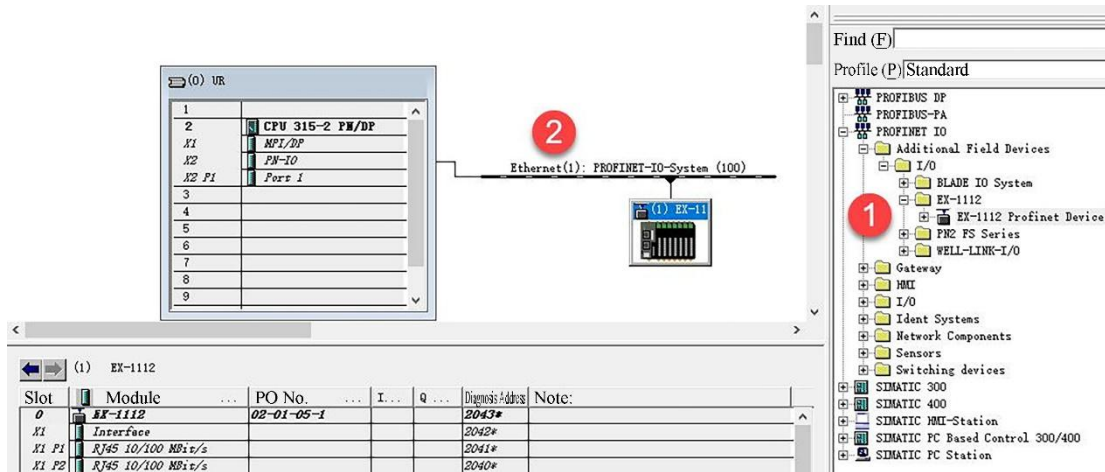

Figure 5-9-28 Adding IO to an Ethernet (1) subnet
On Ethernet (1), configure the I/O device station. On the right, select EX-1112 and drag it under the Ethernet (1) subnet, as shown in Figure 5-9-28.